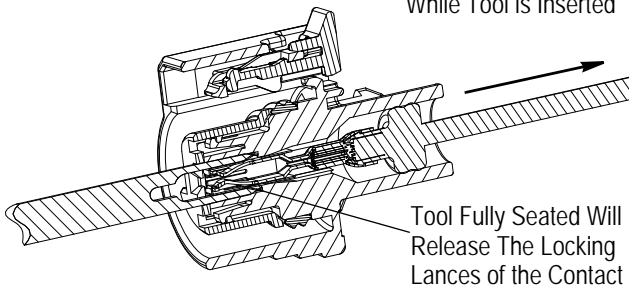

Figure 8
2. Insert terminal extraction tool into the front of the TPA, through the notches on top and bottom of the circuit. The extraction tool will release the metal locking lances of the terminal once it is inserted to the correct depth. General Motors (GM) tool J-38125-557 or TE Connectivity (TE) part number 1579007-1 are recommended extraction tools.
3. With the insertion tool inserted, then use the wire and pull the terminal and wire seal from the connector. See Figure 8.